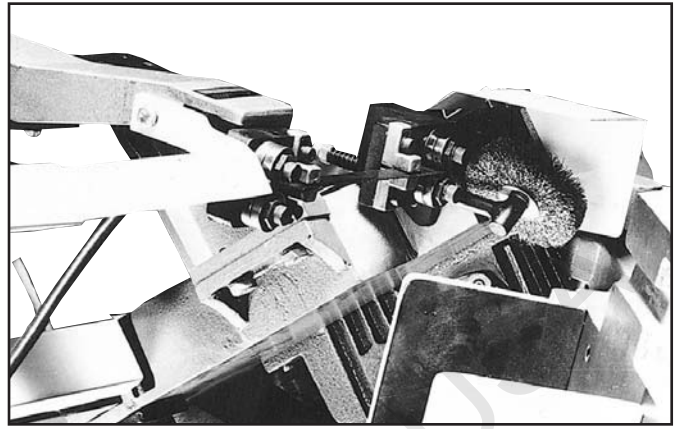

Fig. 2
9. Work the blade all the way up between the blade guide bearings with the back of the blade against the back-up bearing, as shown in Fig.2.